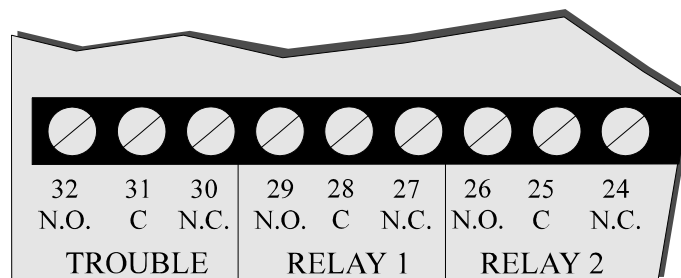

Figure 4-39 Location of Conventional Relay Circuits
1. Wire Relay 1 and/or Relay 2 as needed for your application. See Figure 4-39 for the location of the relay terminals.